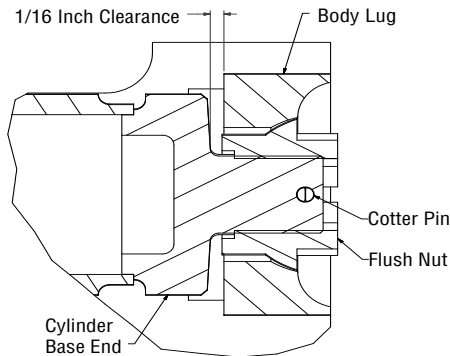

Figure 6-4, Body Lug
3. Adjust to allow 1/16 of an inch movement clearance between the base end of the cylinder and the body lug. (Figure 6-4)